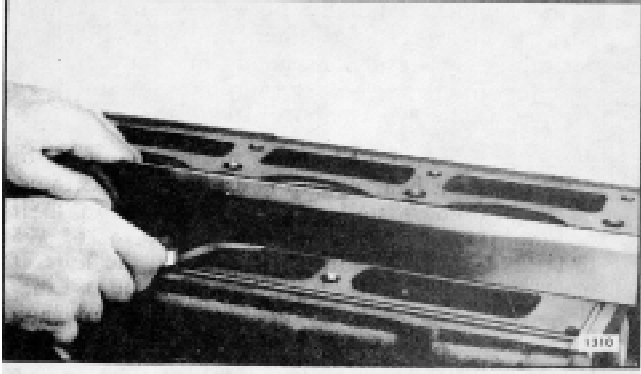

Fig. 15 - Checking Top Face of Cylinder Block
5. Check the top of the block for flatness with an accurate straight edge and a feeler gage (Fig. 15).